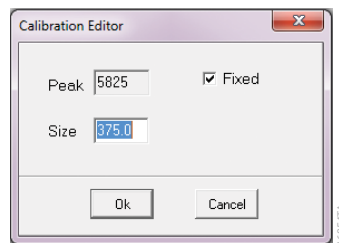

Figure 147. Editing selected peak size in the 'Calibration Editor' window.
3. To edit the size of an existing peak, select the peak, hold down the Control key, left-click on the peak and drag the triangle to the desired position. Alternatively, edit a peak by right-clicking on the peak and selecting **Fix Size**. This opens the 'Calibration Editor' window (Figure 147), allowing you to edit the size and change the Fixed state of the peak. Peaks defined as enabled in the size standard template are fixed peaks. Fixed peaks are set to the specified positions and remaining enabled size standard peaks are adjusted to correctly align with the chosen size standard template.